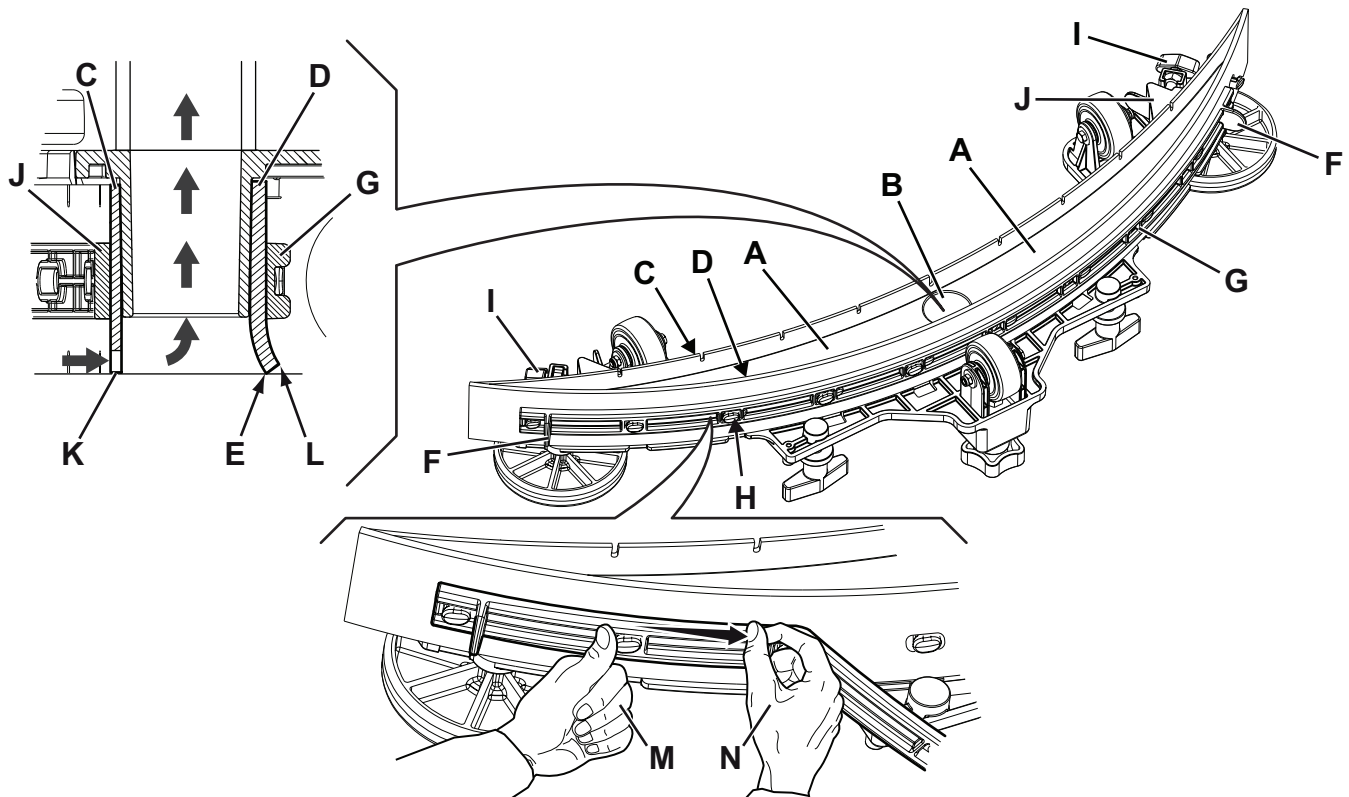

Figure 7
2. Ensure that the machine is off and the ignition key (41) has been removed (if equipped).
3. Loosen the handwheels (14) and remove the squeegee (29).
4. Wash and clean the squeegee. In particular, clean the compartments (A, Fig. 7) and the vacuum hole (B). Check the condition of the front (C) and rear (D) blades, ensuring there are no cuts and tears; if necessary, replace them as shown below.
2. Check the condition of the front (C, Fig. 7) and rear (D) blades, ensuring there are no cuts and tears; if necessary, replace them as shown below. Check that the front corner (E) of the rear blade is not worn; otherwise, turn the blade to replace the worn corner with one of the three remaining intact corners. If the other corners are worn too, replace the blade according to the following procedure:
- Using the tab (F), release and remove the elastic strap (G) from the fasteners (H), then turn or replace the rear blade (D).
- Install the rear blade in the reverse order of removal. Fasten the elastic strap (G) to the fasteners (H) starting from one side. To make the fastening procedure easier, secure the fasteners one at a time, by locking the strap before the fastener with one hand (M) and pulling it with the other hand (N).
- Unscrew the handwheels (I) and remove the strap (J), then turn or replace the front blade (C).
3. Install the squeegee (29) and screw down the handwheels (14).
- Check that the lip (K) of the front blade (C) and the lip (L) of the rear blade (D) are resting as shown in the figure.
- Use the knob (15) to make adjustments.